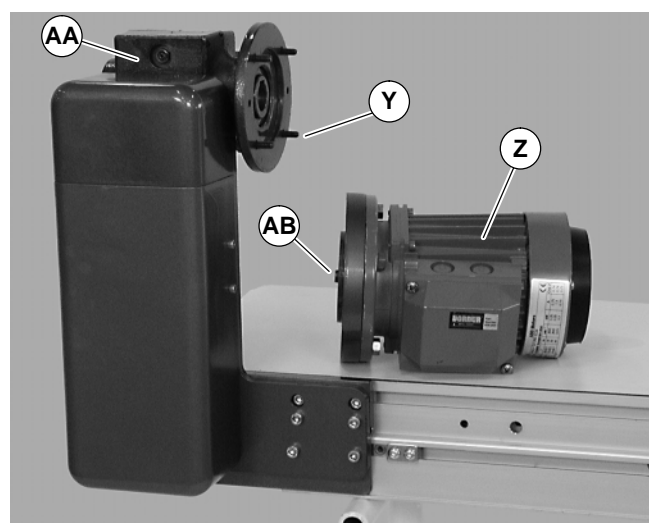

Figure 20
4. Remove four (4) screws (Y of Figure 20). Detach motor (Z) from gear reducer (AA). Retain motor